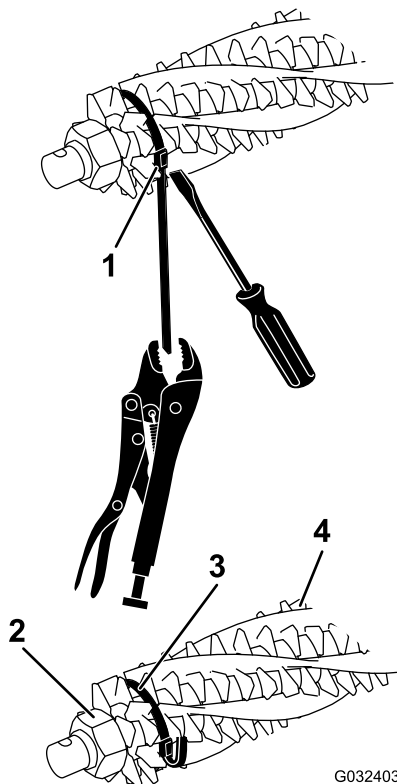
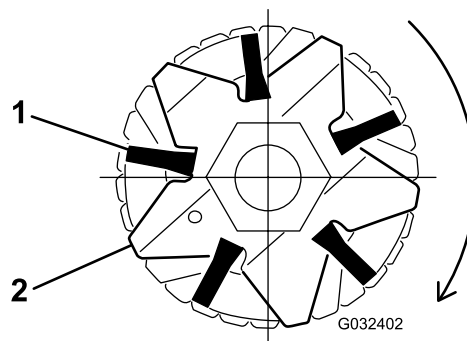

Figure 17
Figure 19
2. Loosen the groomer blade-retaining nuts on each end of the groomer shaft (Figure 17).
4. Verify that the brushes are seated in the groomer blade slots (Figure 17 and Figure 19).
5. Loosely wrap the straps, as shown in Figure 17, around the groomer reel shaft and brushes, inserting the straps in the grooves in the brushes Figure 19.
Note: If the broomer brushes are not seated properly in the blade slots, loosen the groomer-blade retaining nuts on each end of the groomer shaft, position the broomer brushes properly in the blade slots, and tighten the groomer-blade retaining nuts (Figure 17).
7. While pushing a screwdriver against the strap buckle, grasp each strap with a locking pliers and pull the straps tight until they lock into the brush grooves (Figure 17).